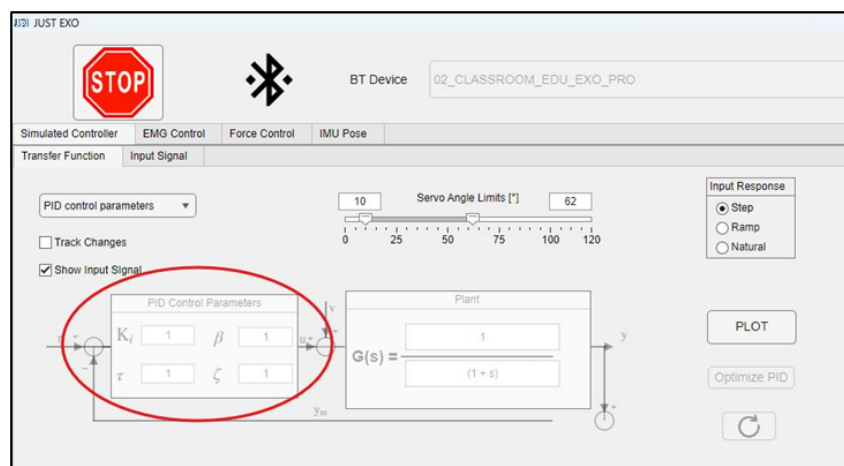

Figure 14: Change the different parameters.
4. Choose parameters, see Figure 14.